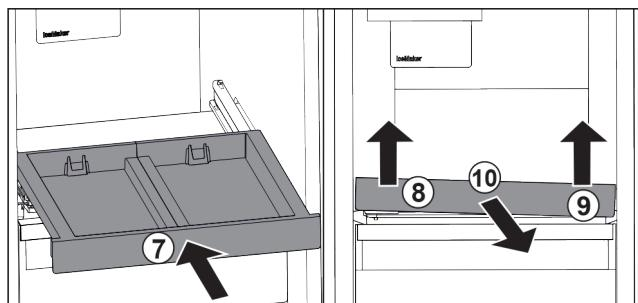

Fig. 125
- ▶ Slide in the pull-out board. Fig. 125 (7)
- ▶ Lift the pull-out board on the front left. Fig. 125 (8)
- ▶ Lift the pull-out board on the front right. Fig. 125 (9)
- ▶ Take out the pull-out board to the front. Fig. 125 (10)